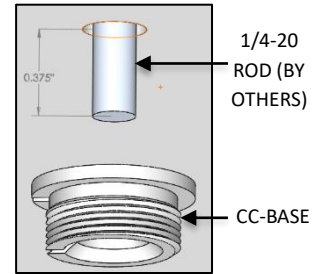

FIG. 10 - GRID CEILING
6. Add a light thread locking compound to the 1/4-20 ROD (by others). Then thread CC-BASE to 1/4-20 ROD protruding through the ceiling material as shown in FIG. 10.